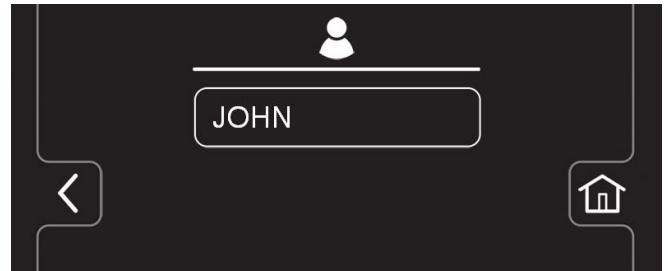

FIG. 183
7. The new user profile is now saved to the operator profile list as shown (Figure 183). Multiple Operator and Supervisor user profiles can be added. Press the back arrow to return to the previous screen to add more user profiles.